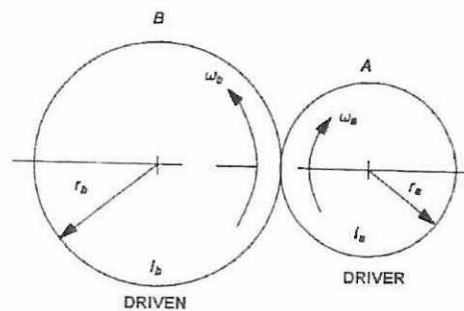

Figure Q1.3
- (b) Gear A is rotating gear B as in **Figure Q1.3**. The moment of inertia of gear A and B is 0.8 kgm^2 and 2 kgm^2 respectively. Gear A rotates at 400 revolutions per minute with an angular acceleration of 3 rad/s^2 while gear B rotates at 250 revolutions per minute. If the gear efficiency is 82%, determine the torque required by gear A to rotate gear B.